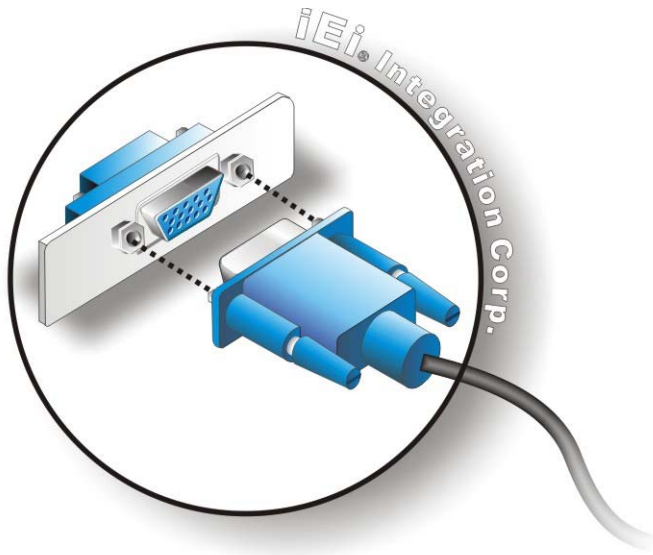

Figure 4-17: VGA Connector
**Step 3:** **Insert the VGA connector** Once the connectors are properly aligned with the insert the male connector from the VGA screen into the female connector on the PCIE-H610. See **Figure 4-17**.